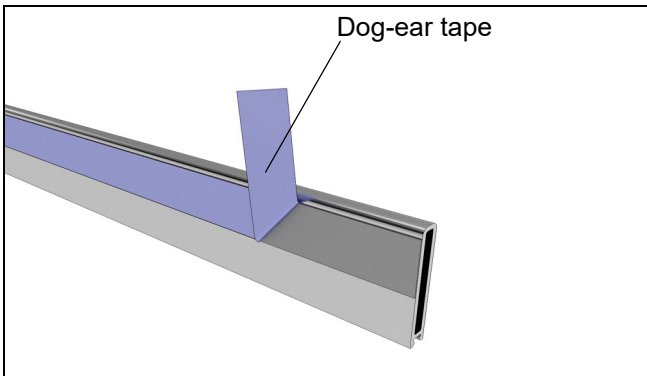

Figure 6
6. Peel back the backing on the tape and dog-ear it, exposing the tape by approximately 2". See Figure 6.